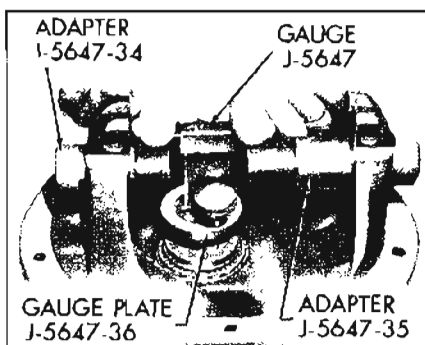

Figure 6-24—Checking Pinion Setting
8. Be certain that differential support bores are free of burrs. Drive a wedge into each pedestal split and spread them just enough so that Adapters J-5647-35 and 34 can be inserted. Then place indicator gauge in carrier as follows: (See Figure 6-24.)
c. Position the spring-loaded pin of the indicator gauge in the centering hole of Gauge Plate J-5647-36, and position the contact button of dial indicator to bear against machined surface of Gauge Plate. See Figure 6-24.